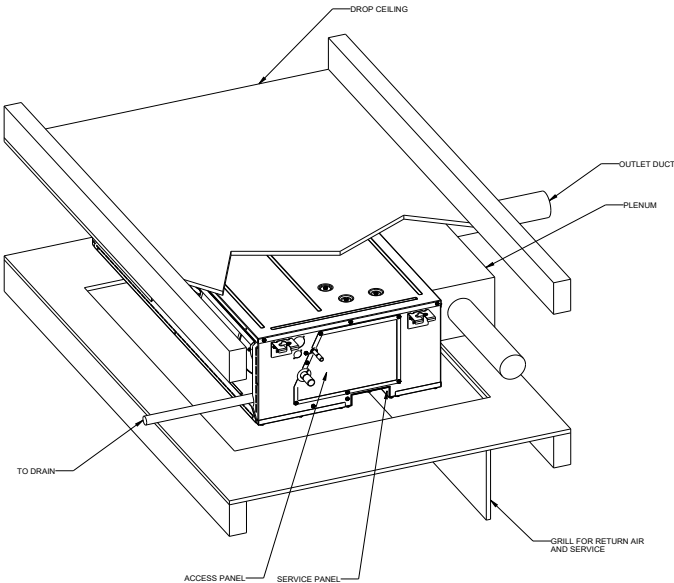
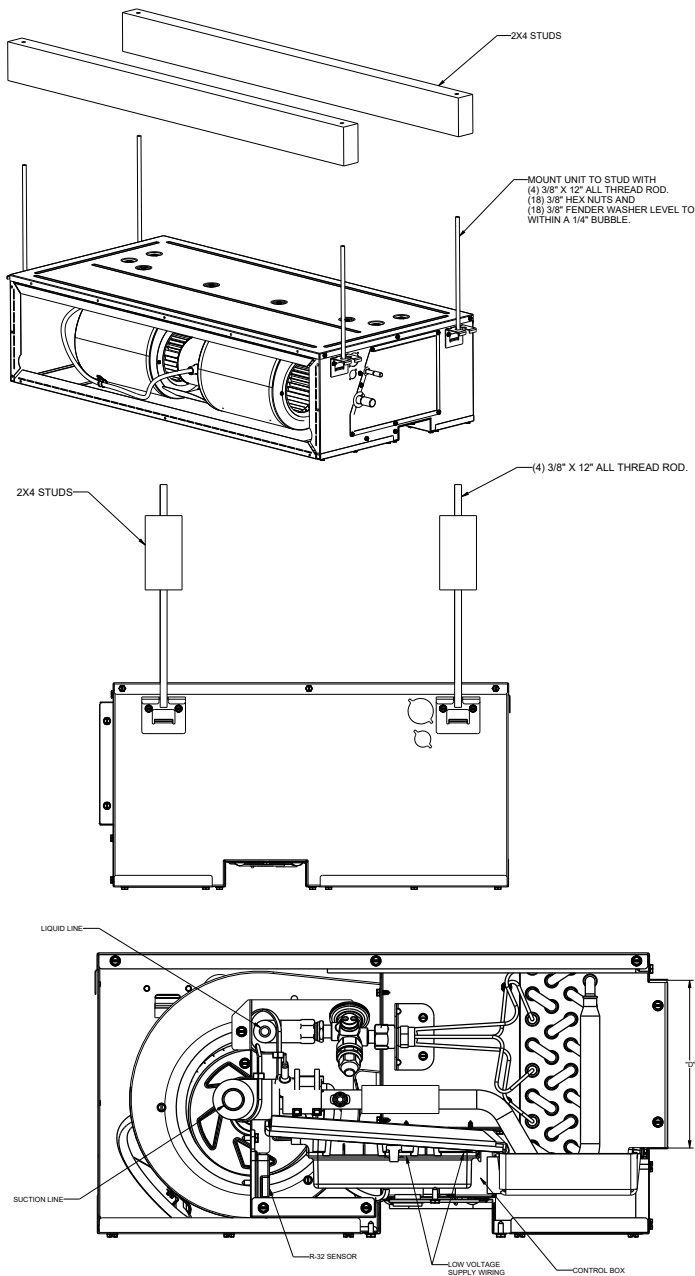

Figure 3
Figure 4
- 2. Mount the unit in a horizontal position above a dropped ceiling of adequate strength. Refer to Figure 3. Refer to Figure 4 for proper mounting methods.